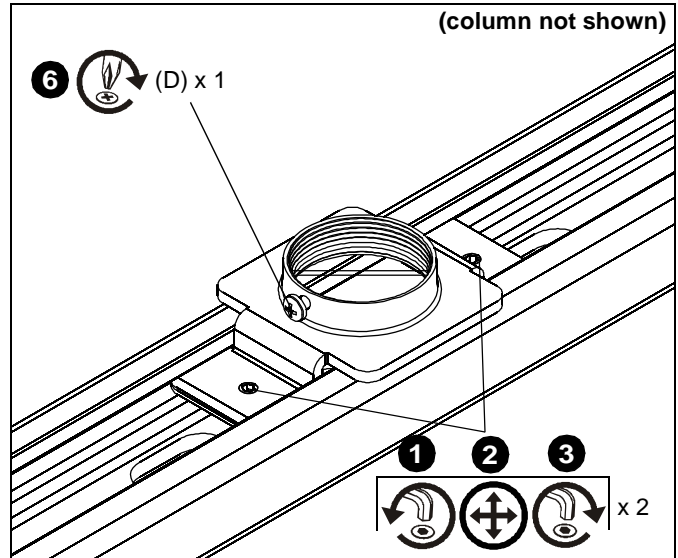

Figure 3
5. Install 1-1/2" NPT threaded column (not included) into threaded collar on ceiling plate (A).
6. Install one 10-24 x 1/4" Phillips head screw (D) into threaded collar and tighten. (See Figure 3)
1. Loosen adjustment set screws. (See Figure 3)